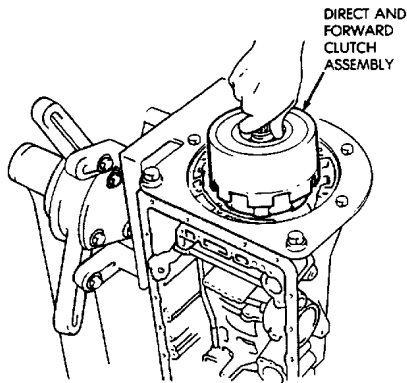

Fig. 31 Removing Direct And Forward Clutch Assembly
- (39) Remove direct and forward clutch assembly (Fig. 31).